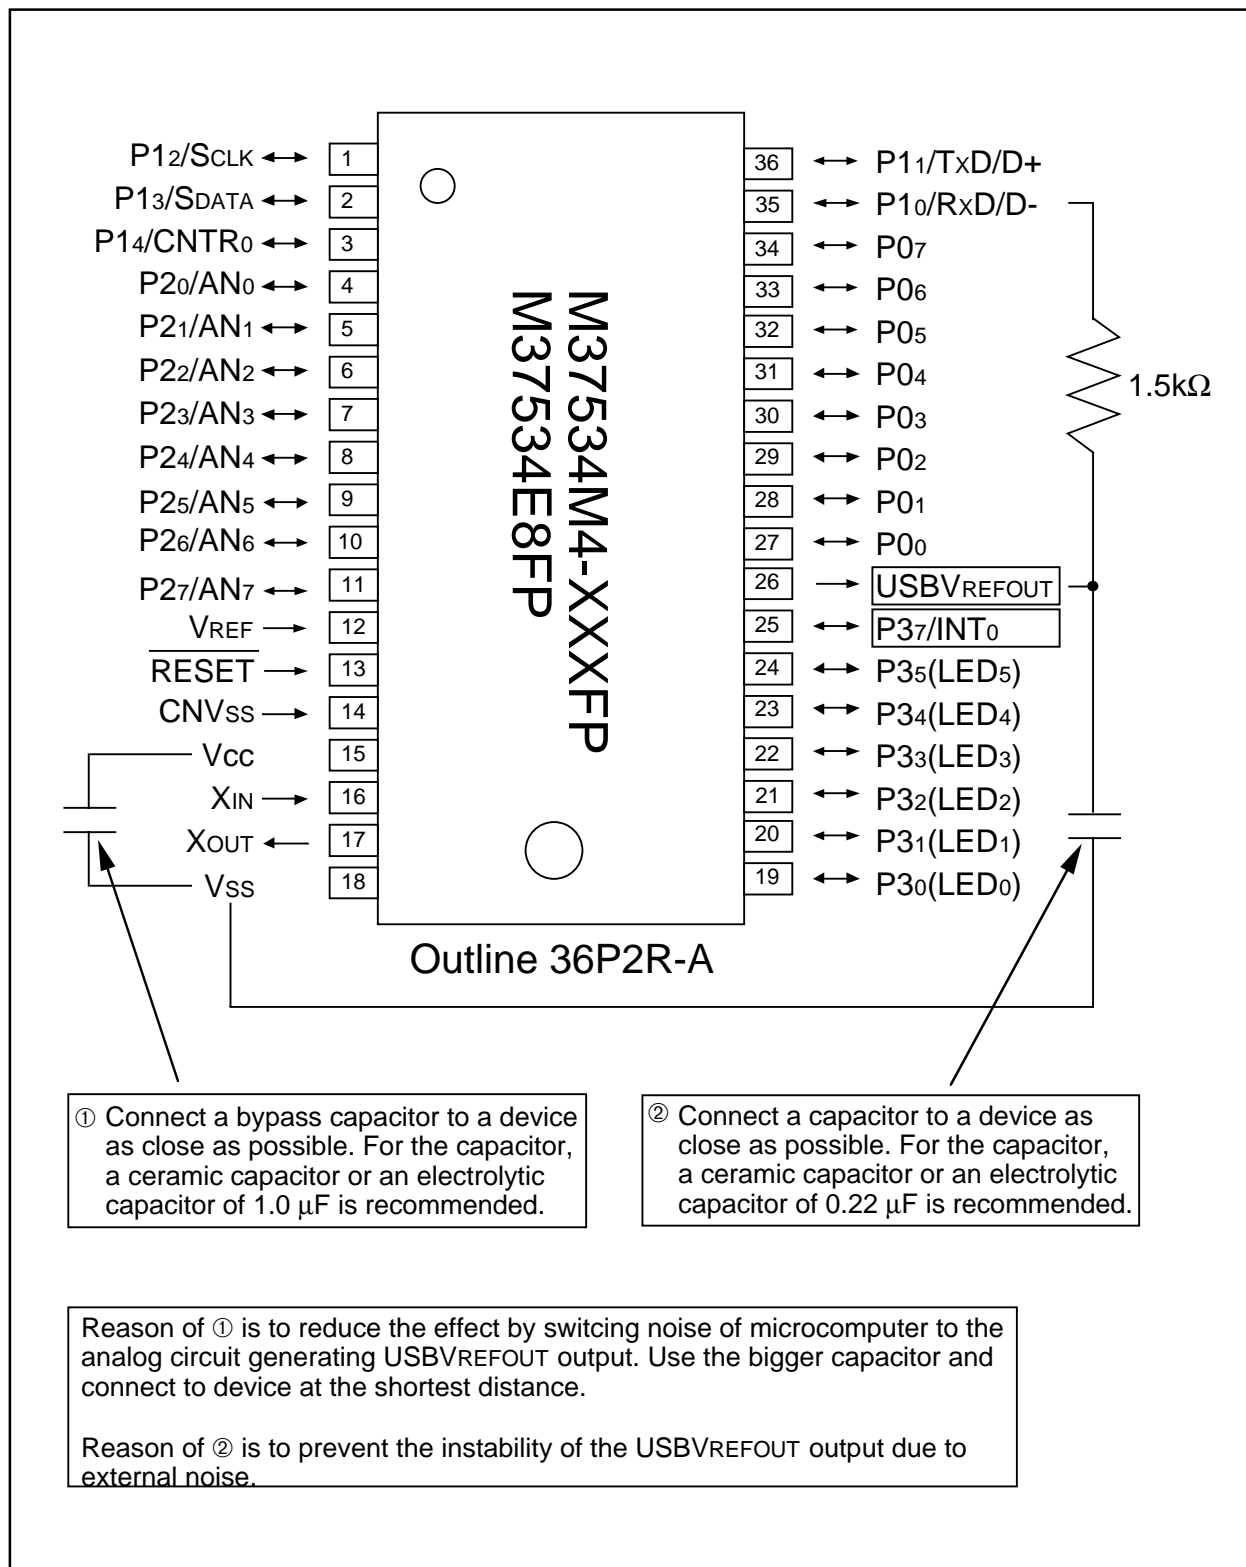
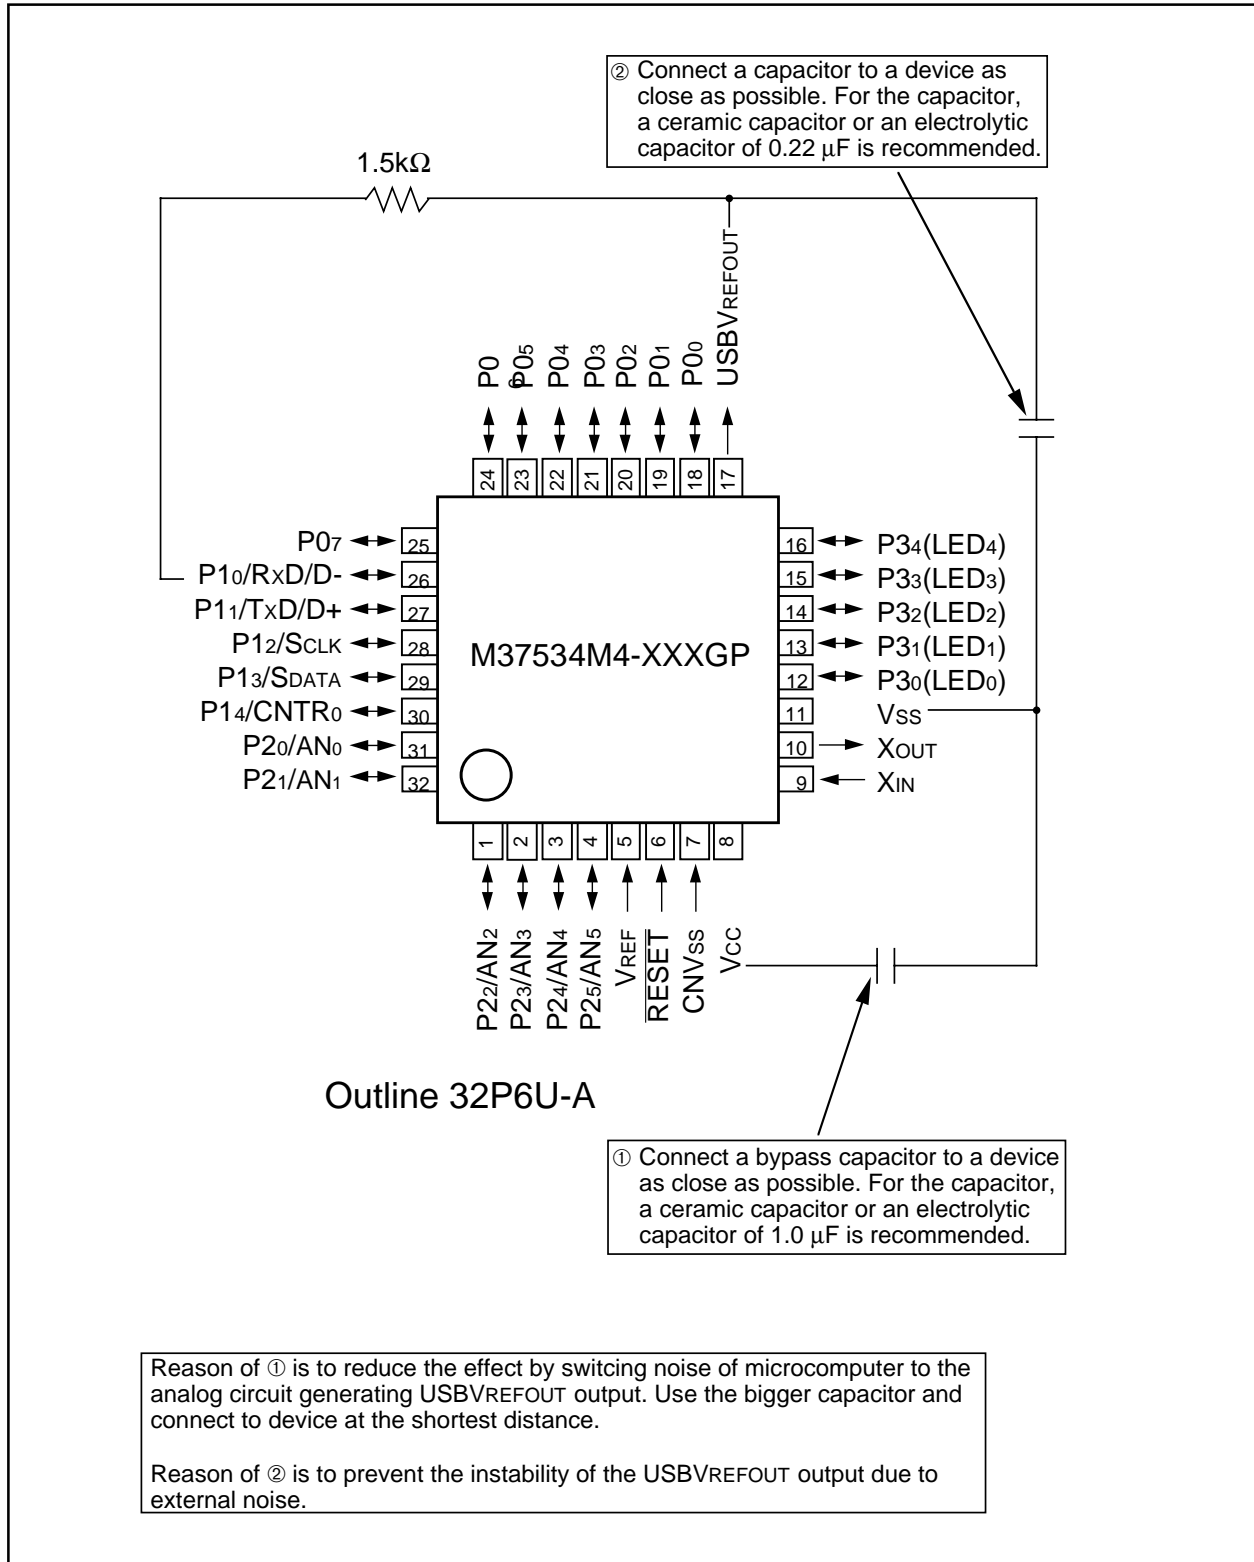
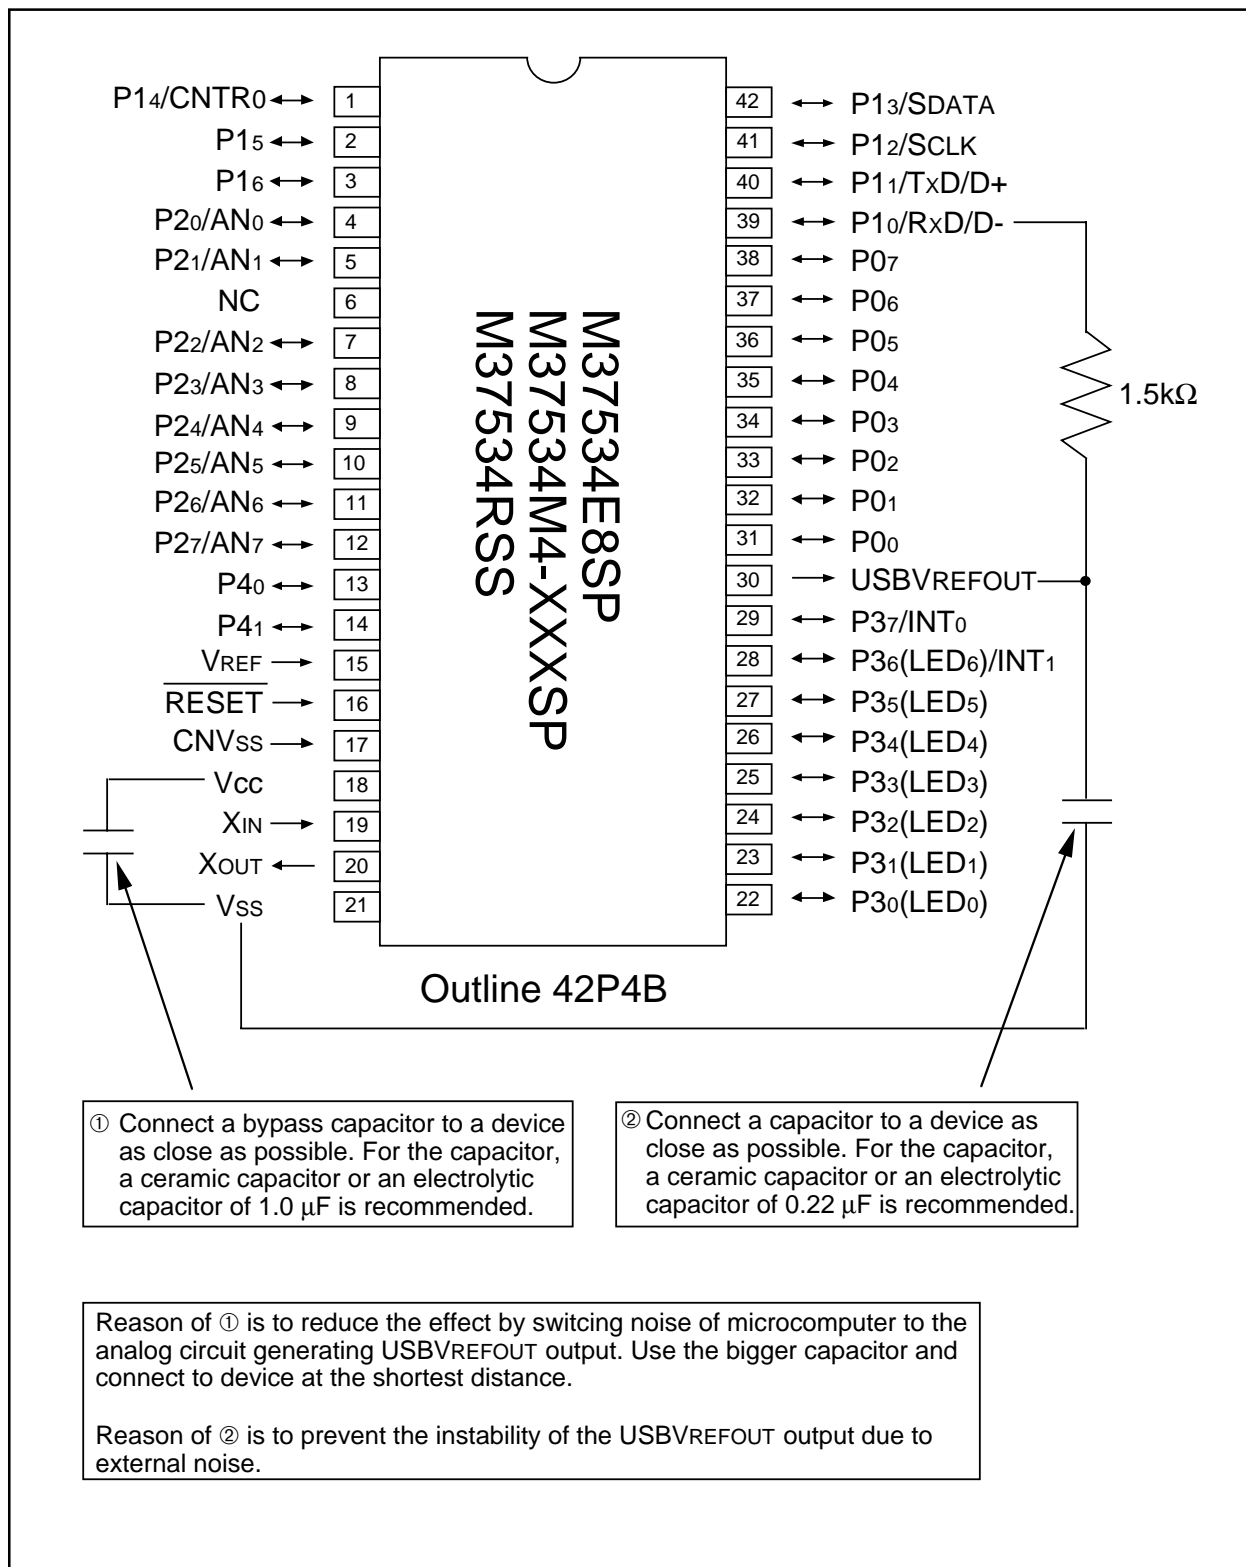

Fig. 51 Handling of VCC, USBVREFOUT pins of M37534M4-XXXXFP, M37534E8FP
Fig. 52 Handling of VCC, USBVREFOUT pins of M37534M4-XXXGP
Fig. 53 Handling of VCC, USBVREFOUT pins of M37534E8SP, M37534M4-XXXSP, M37534RSS
| 1.1 | <p>Page 2: package type revised; 32P6B-A → 32P6U-A</p> <p>Page 5: package type revised; 32P6B-A → 32P6U-A</p> <p>Page 8 package type revised; 32P6B-A → 32P6U-A</p> <p>Page 34: Description revised; RESET “L” pulse width 2 μs → 15 μs</p> <p>Page 43: Table 11 revised; Absolute accuracy (excluding quantization error) → Linearity error</p> <p>Page 44: Table 12 revised; tw(RESET): 2 → 15</p> <p>Page 48: Fig. 51 Description ①, ② revised</p> <p>Page 49: Fig. 52 Description ①, ② and package type revised; 32P6B-A → 32P6U-A</p> <p>Page 50: Fig. 53 Description ①, ② revised</p> <p>Page 51: Package outline revised; 32P6B-A → 32P6U-A</p> | 000614 |